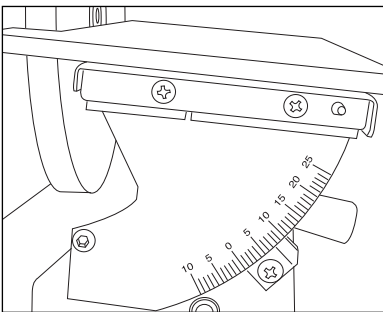

fig. 3
1. Set relief angle using elevation scale (generally relief's run from 5 degrees to 10 degrees or duplicate the existing angle on your chasers) (fig. 3).